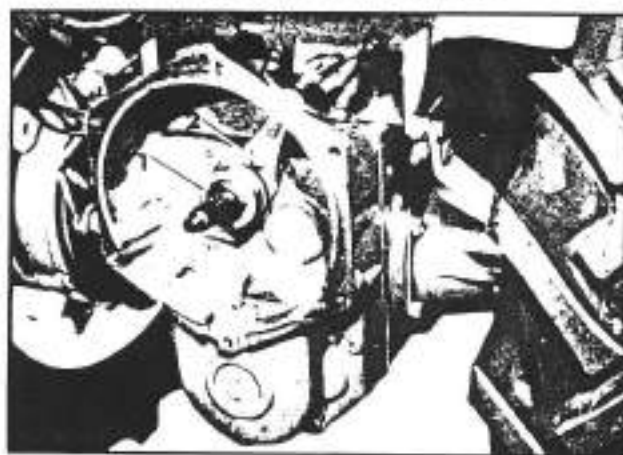
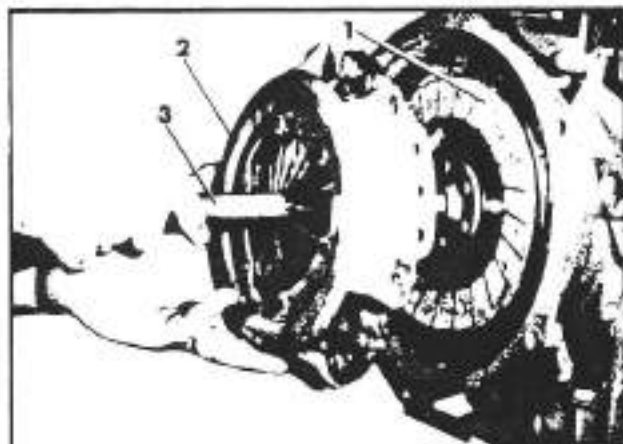

Fig. 3-2. Removal of the clutch fork and bearing
Fig. 3-3. Mounting the spring disk
much care in order to avoid damage to or rapid wear of the thrust bearing (1; fig. 3-2) and of the clutch disk (1; fig. 3-3). It is absolutely necessary to center the clutch disk (1, fig. 3-3) and the spring disk (2; fig. 3-3) before inserting and tightening the bolts.
In order to perform this operation correctly, it is necessary to have for centering a spare main shaft (3; fig. 3-3).
- Remove the thrust bearing (1; fig. 3-2) and the clutch fork (2; fig. 3-2).